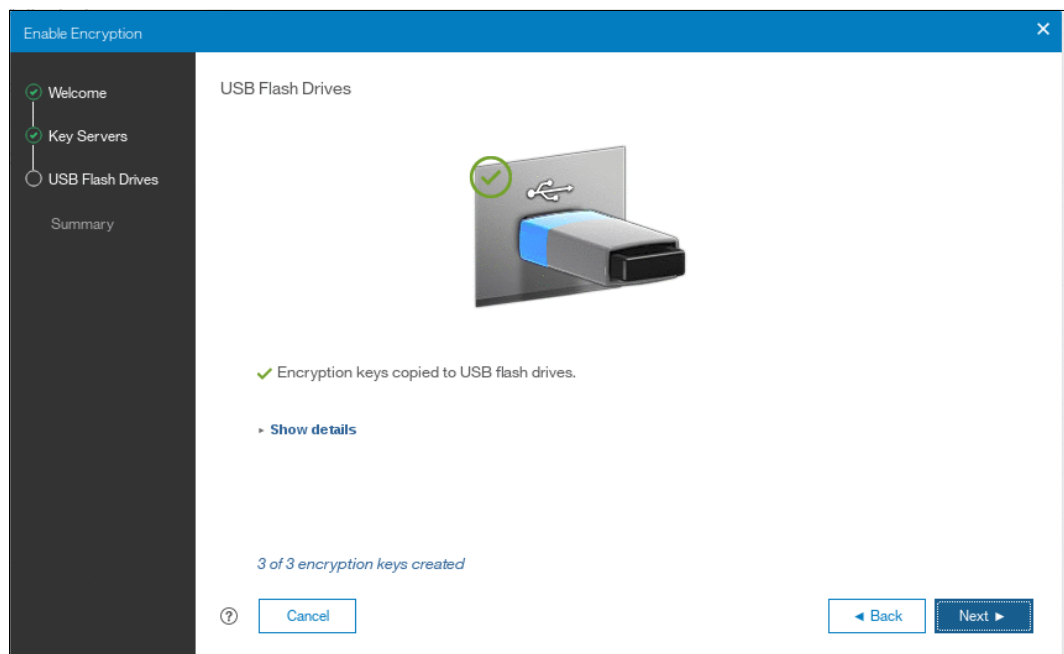

Figure 13-26 Writing the master access key to USB flash drives
4. After the minimum required number of drives is detected, the encryption keys are automatically copied on the USB flash drives, as shown in Figure 13-26.